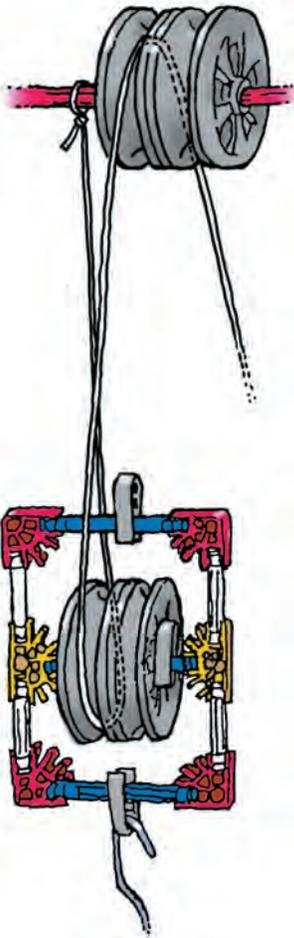

Figure 12.5 Single fixed, single movable pulley setup
7. Set up the remaining three pulley systems one at a time as shown in Figures 12.5, 12.6, and 12.7. For each setup, measure the effort force and the effort distance needed to raise the movable-pulley-and-sled combination 0.10 m. Add these data to Table 1 on Student Sheet 12.1.